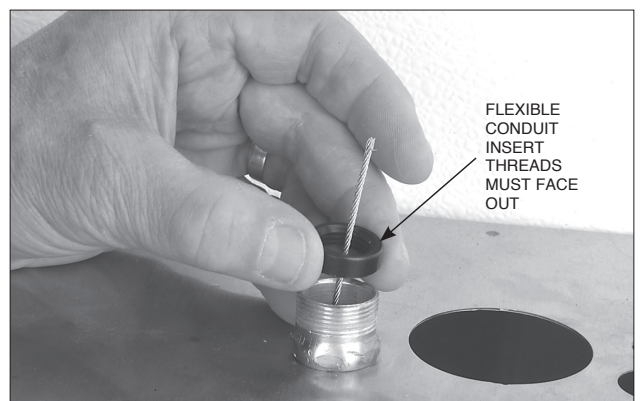

FIGURE 5-55
4. Thread the stainless steel wire rope through the EMT conduit connector and flexible conduit insert. Make certain that the thread in the flexible conduit insert is facing out toward the end of the connector. See Figure 5-55.